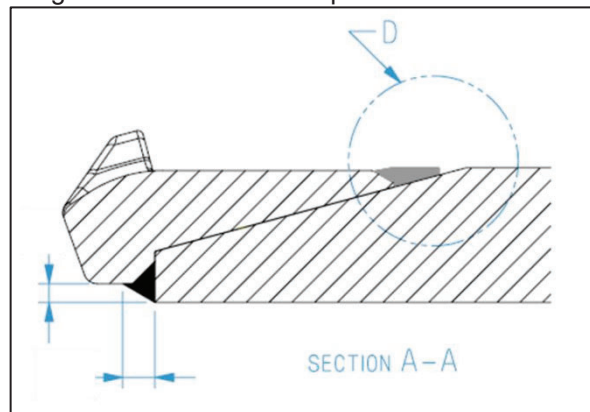

Figure 32 Excerpt – Excerpt from Weld Information drawing BU00037748
2.16.3. Carry out the Partial Penetration Butt welds of the Bosses at the Lip leading edge as per the Weld Specification Drawing BU00037748 & Weld procedure PWP0001. Refer Figure 32.